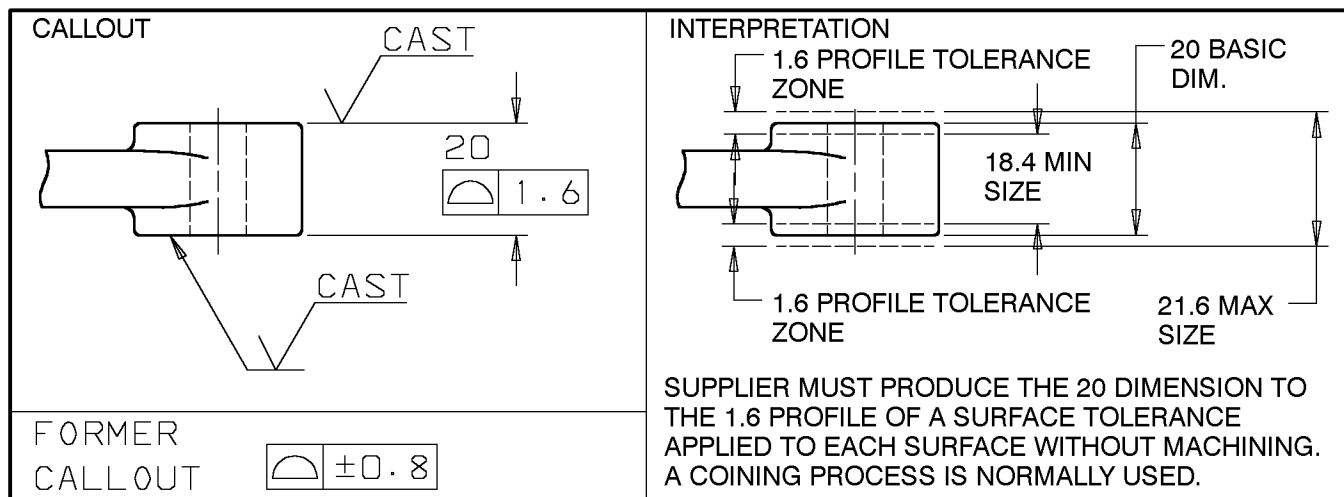

Figure 35 - Supplier Responsibility -
**14.1** Supplier Responsibility Indicated by Surface Texture Symbol. The supplier is responsible for producing the surface to which a surface texture symbol is attached when **CAST** or **FRG** is shown on the horizontal bar at the top of the symbol. The interpretations for supplier responsibility basically apply to casting and forging suppliers alike, however, they are used more frequently with castings because many forging suppliers do not perform machining operations. Interpretations for surface texture symbols showing supplier responsibility are shown in Figures 35 thru 38.